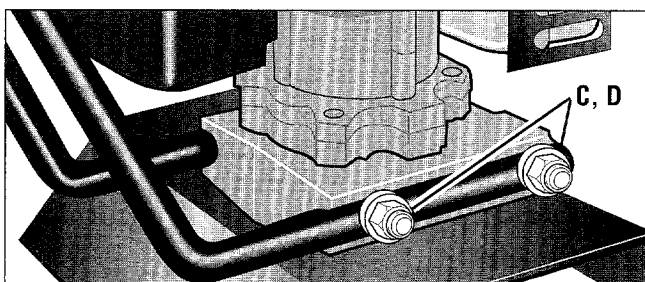

Figure 4: Install lower right handlebar.
5. Install the lower right handlebar over the ends of the screws – see Figure 4. Install a 1/4" flat washer (C) and locknut (D) on each screw.